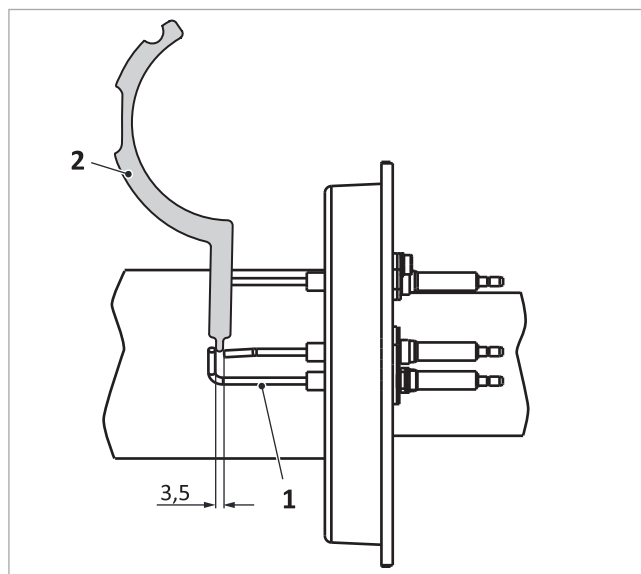

Fig. 136: Clearance from electrode to gauges on the ignition electrode
1. Check the clearance of the ionisation electrode using an electrode gauge → Fig. 136 (2) (if necessary,
- Electrodes below one another → Fig. 136 (1): 3.5 mm